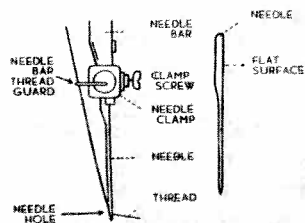

Fig. 14
2. Hold the needle in the left hand with the point down, and insert the needle up into the needle clamp as far as it will go, with its flat surface to the right; then retighten the clamp screw (Fig. 14).